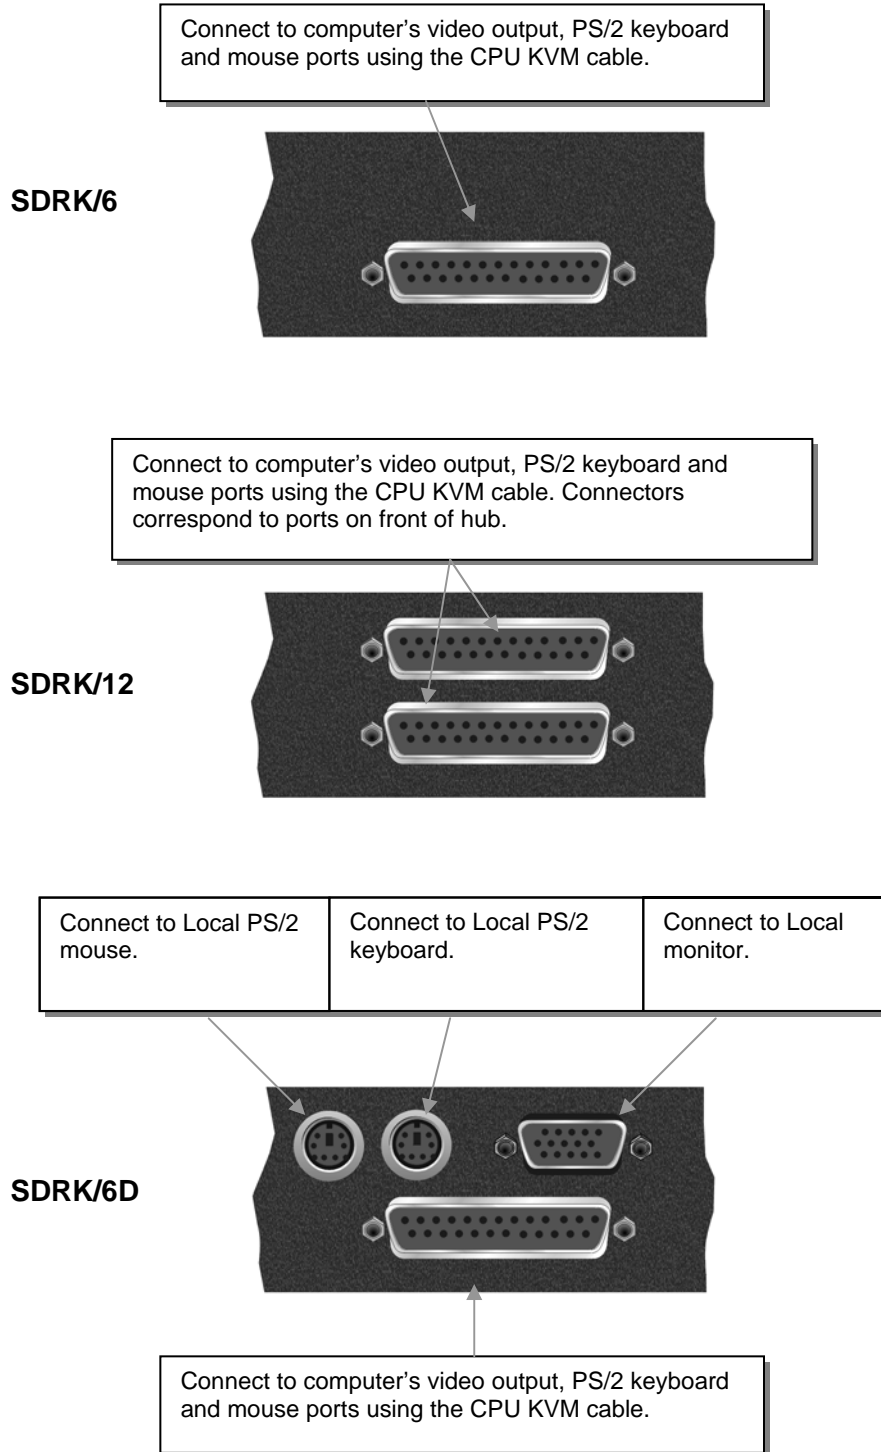
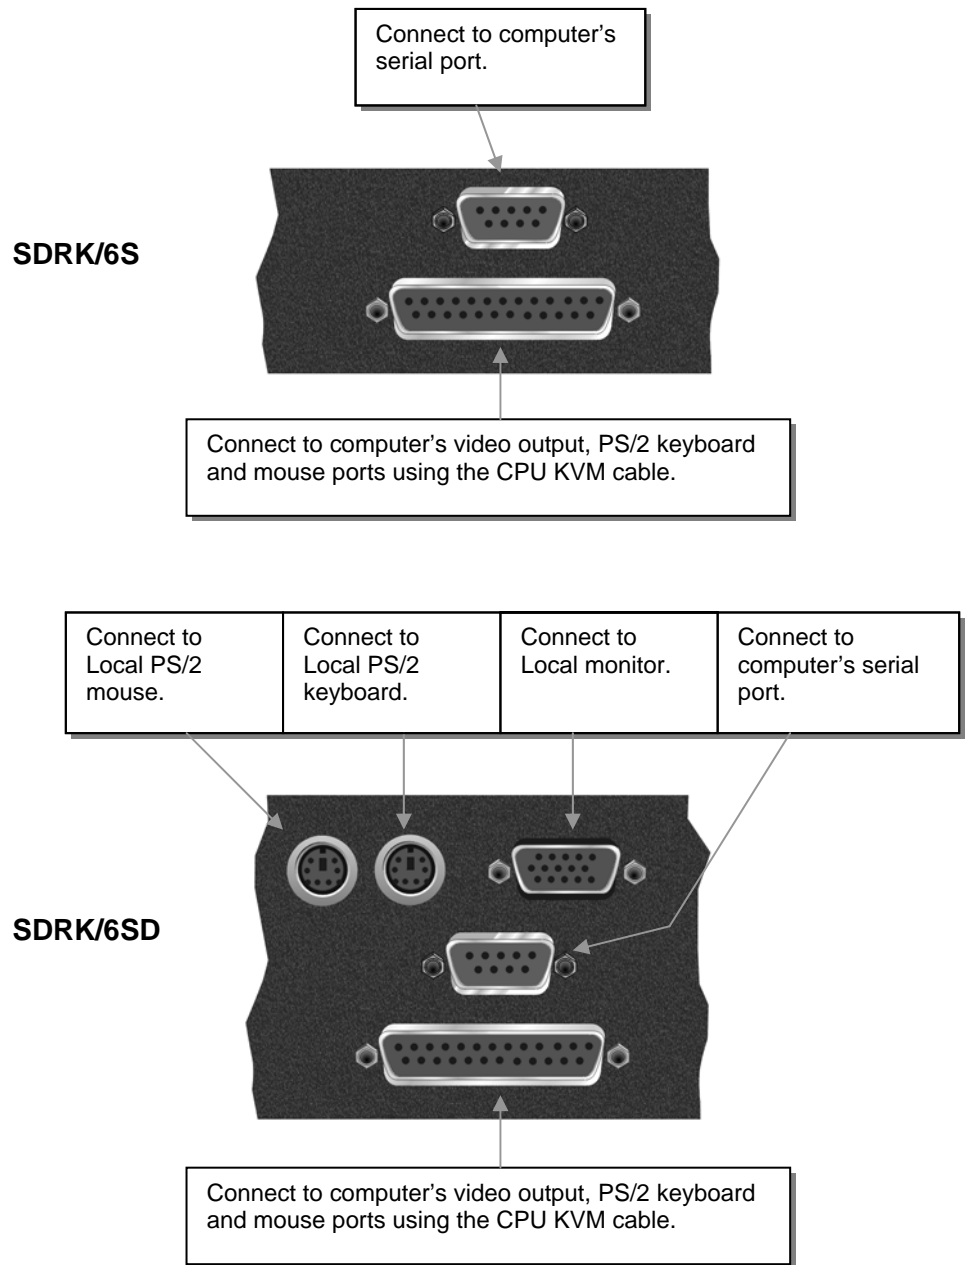
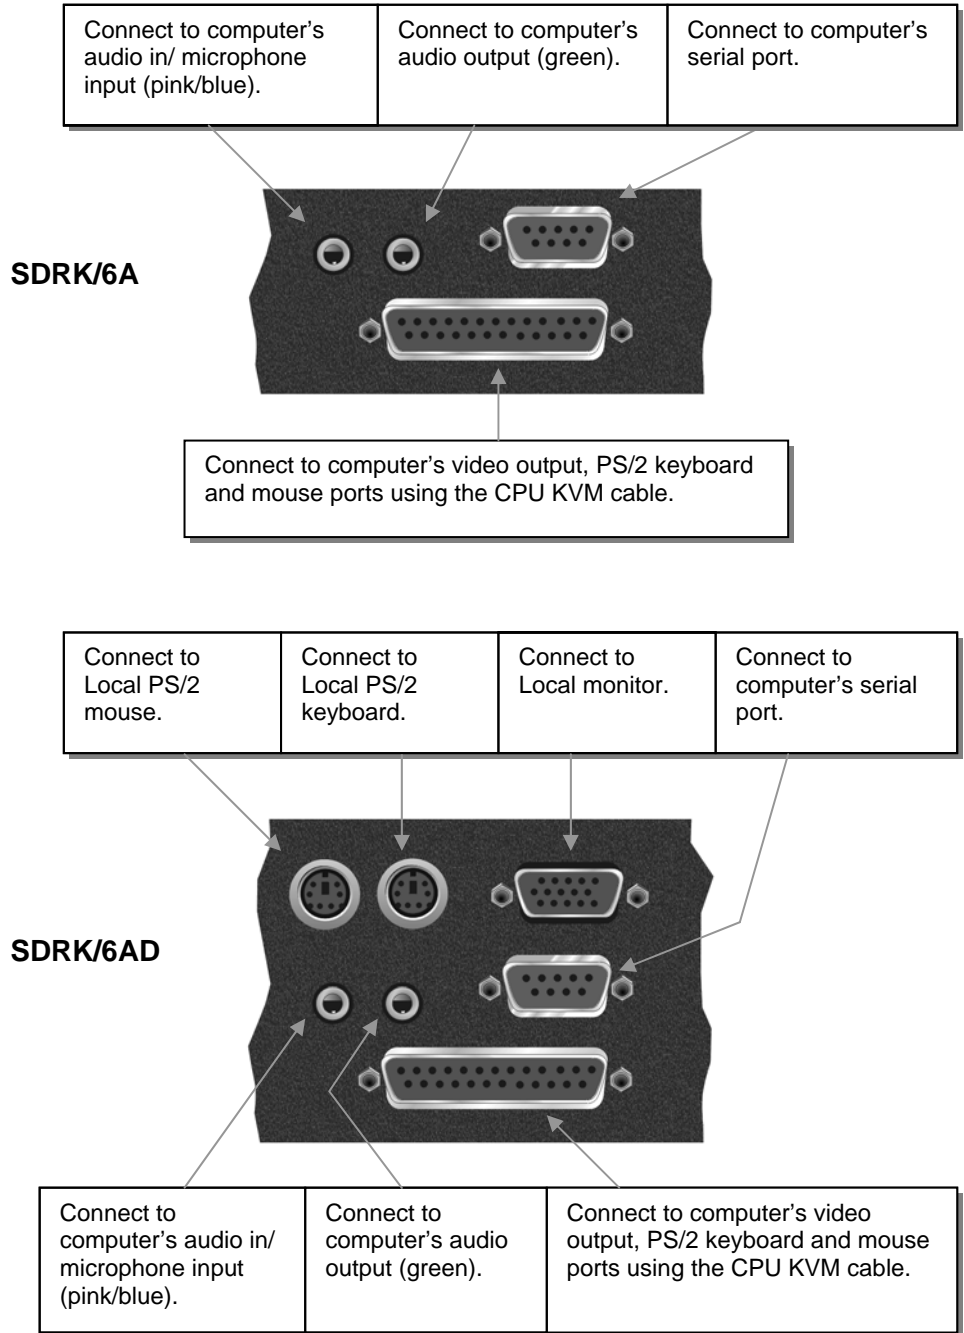

Figure 2 Standard Hub Port - rear view
Figure 3 Serial Hub Port - rear view
Figure 4 Audio/Serial Hub Port - rear view
2. Using the combination CPU KVM cable(s), connect the keyboard, monitor(s) and mouse connectors on each computer (or KVM switch) to the corresponding connectors on a port of the Local Hub as shown in Figure 2 (Standard Hubs), Figure 3 (Serial only Hubs) or Figure 4 (Audio/Serial Hubs).